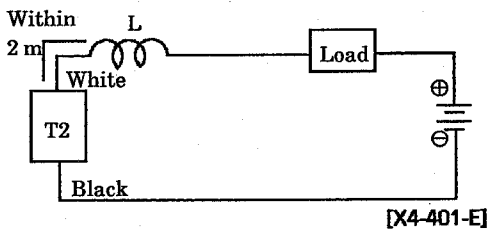
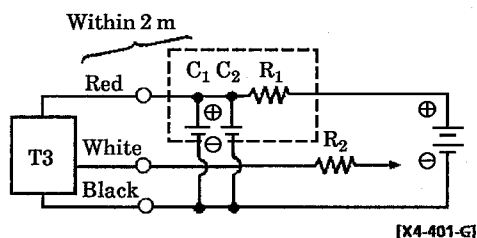

Fig. 5 • Choke coil
Fig. 7
- Install some protective circuit as per illustrated in Fig. 5 or 6 (in case of model T2) and Fig 7 (in case of model T3), when lead cord exceeds 10m in length.